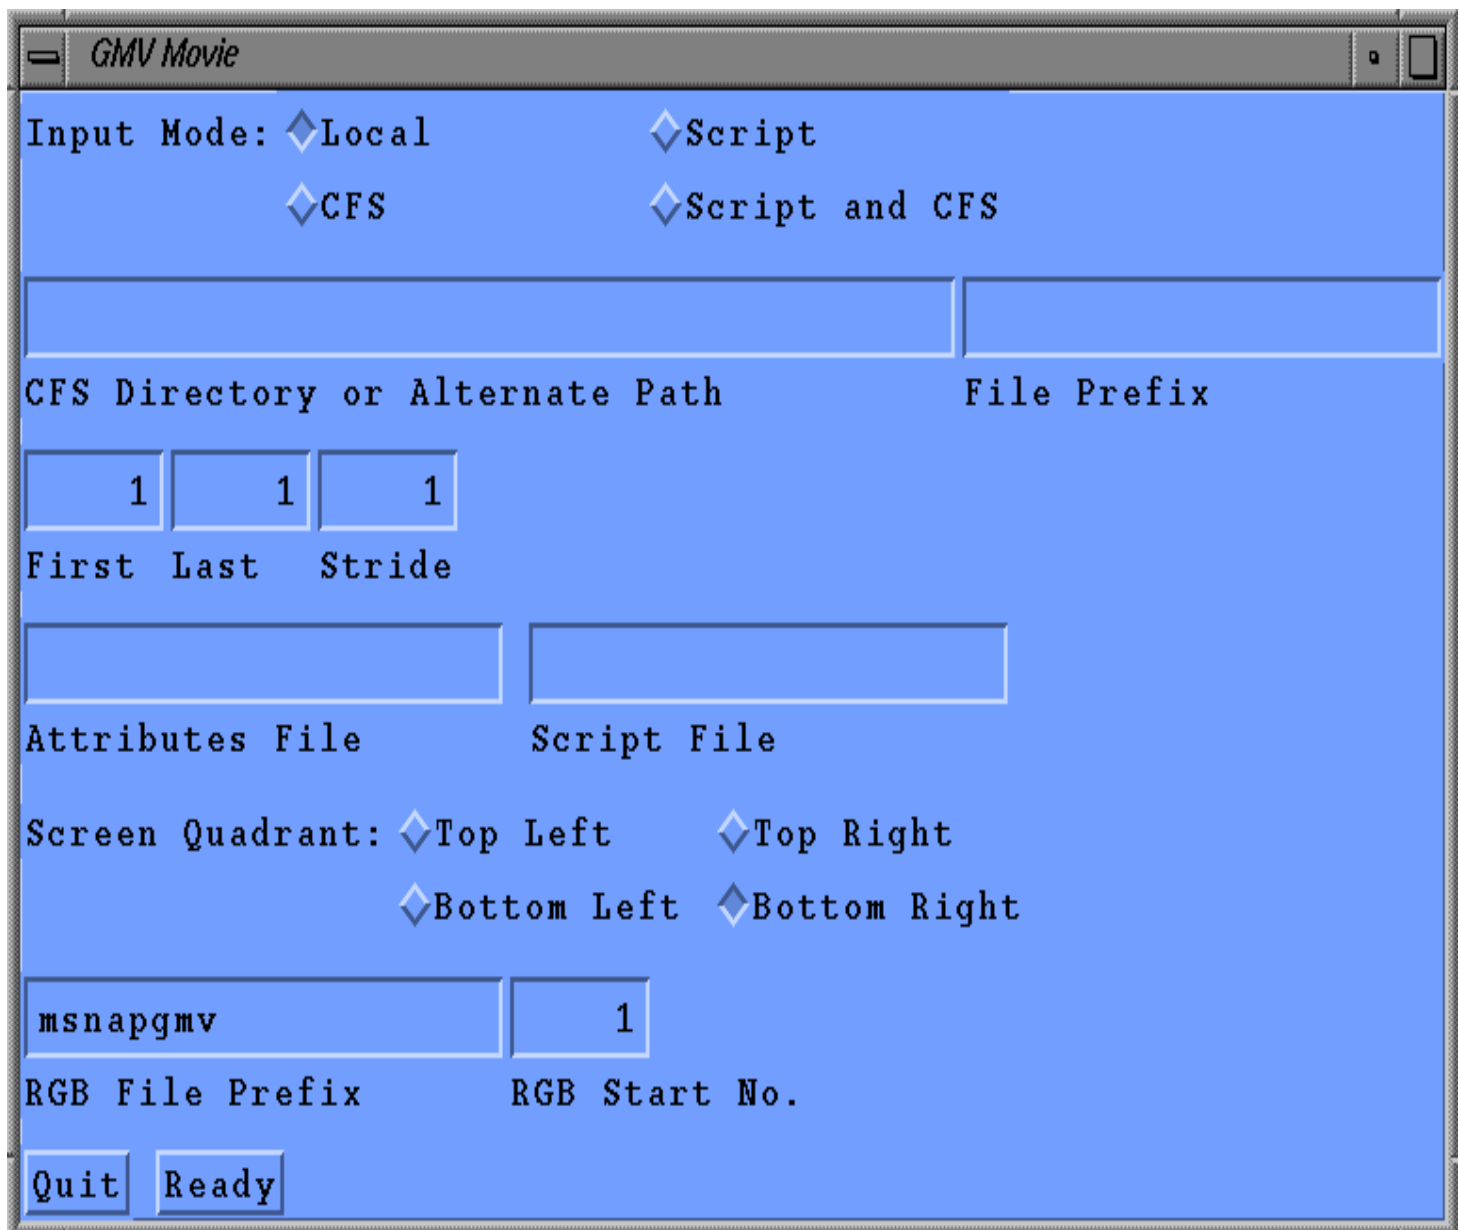

Figure 10–1. GMV Movie menu
The GMVMovie utility can be used instead of a script to generate time–sequence movies, (see Fig 10–1). It works by first locating where the files are, then getting them one at a time and running gmV to make a snapshot image file of each frame. As GMVMovie finishes each frame, it removes the input file if the file was imported from CFS. If the input file was on a local disk, GMVMovie leaves it there.
3. Start up GMVMovie and fill in the blanks on the menu, (see Fig. 10–1).